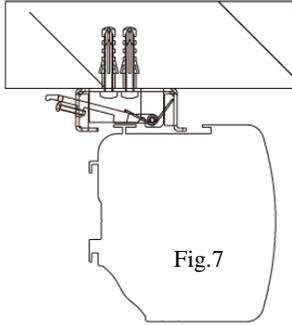

Fig.7
4. Hang the screen by aligning the back of the screen's casing to the bracket as shown in Fig 7. You will hear a click sound confirming the case has been properly attached and secured, Fig. 8.